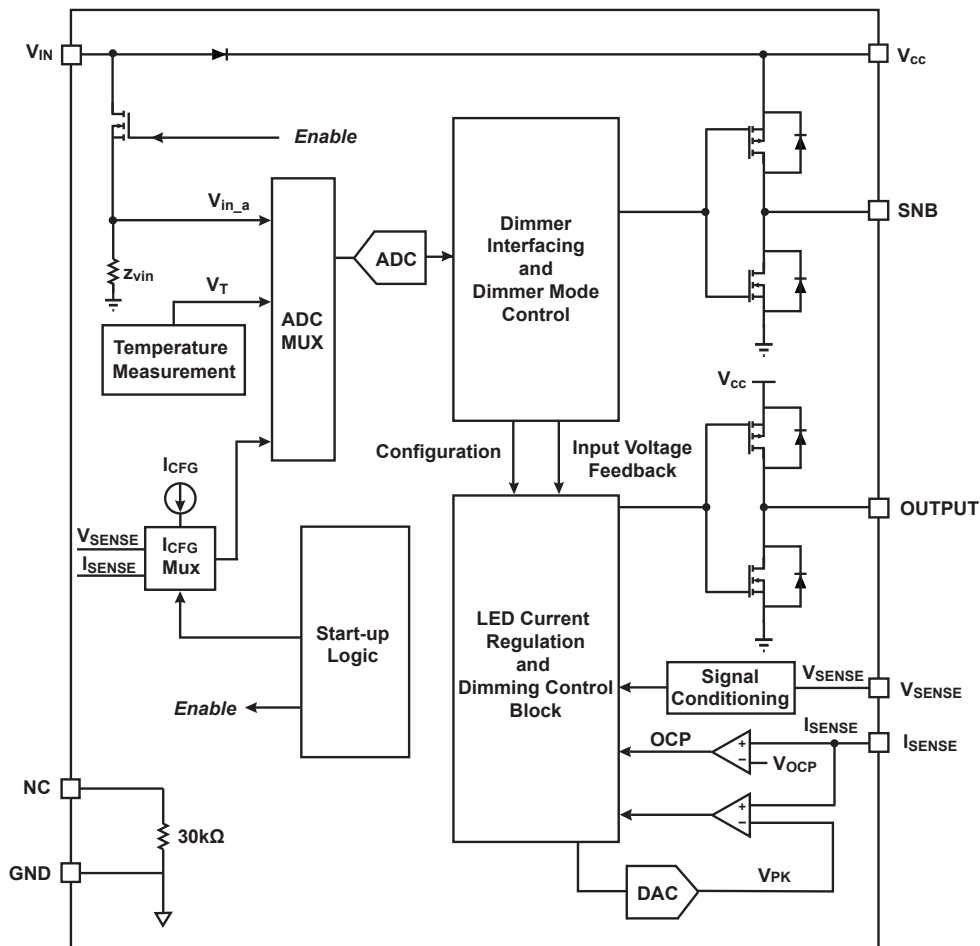

Figure 8.1 : iW3605 Functional Block Diagram
- Note 2. Refer to the voltage level at the  $V_{IN\_a}$  point in Figure 8.1. The typical impedance between the  $V_{IN}$  pin and  $V_{IN\_a}$  point is 750Ω.
- Note 3. Refer to  $Z_{VIN}$  in Figure 8.1.
The dimmer interface and dimmer mode control block (shown in Figure 8.1) analyzes the rectified AC waveform and determines whether a dimmer is connected on the line.